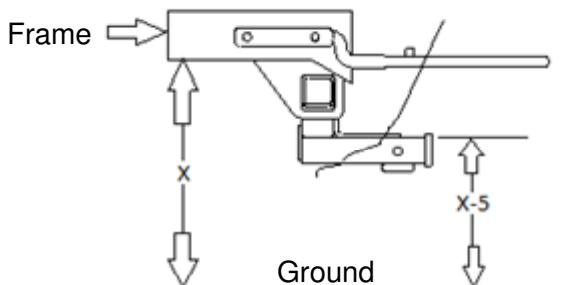

Figure 4
- ** 2011 model has 2" vertical fascia trim (measured from the bottom of the fascia lip). Mark fascia with non-permanent marker. Re-confirm fascia cut height by using figure 4 procedure and mark height from ground on fascia. Cut the lower of the two marks.